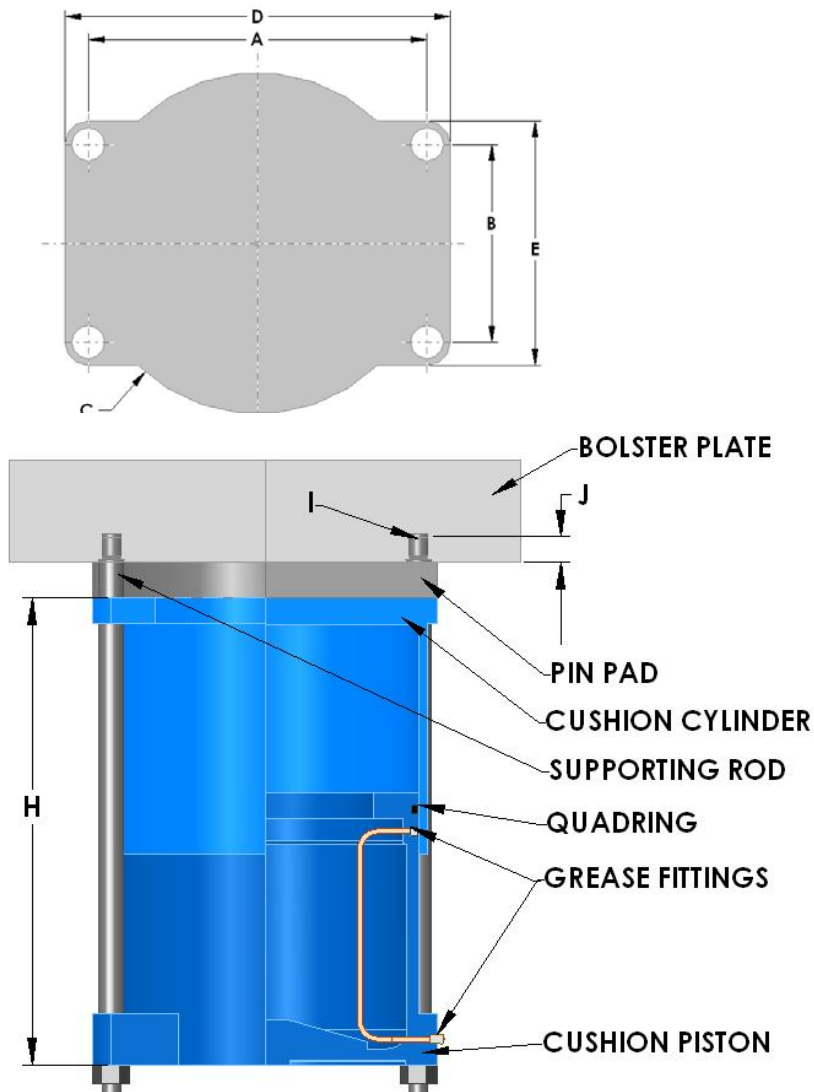

Fig. 8 Bolster plate mounted Model C cushion.
(1) The die cushion should be mounted to the bolster plate so that it is centrally located with reference to the opening in the press bed (See Fig. 8). To accomplish this it is advisable to scribe the press bed opening on the underside of the bolster plates before removing it from the press. This outline will locate the relative position for attaching the die cushion,